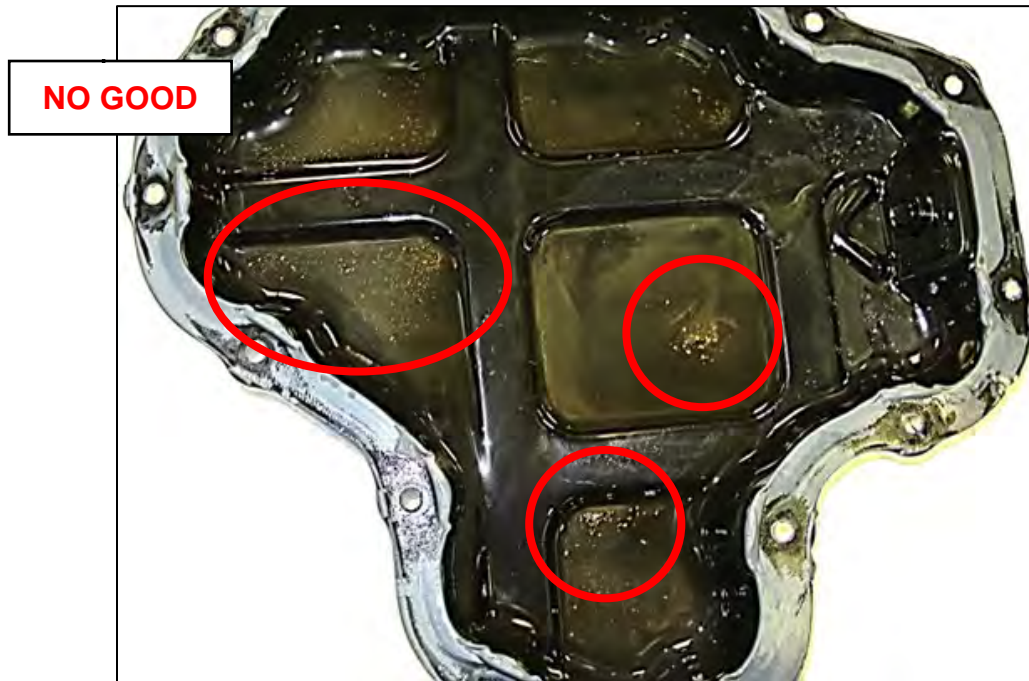
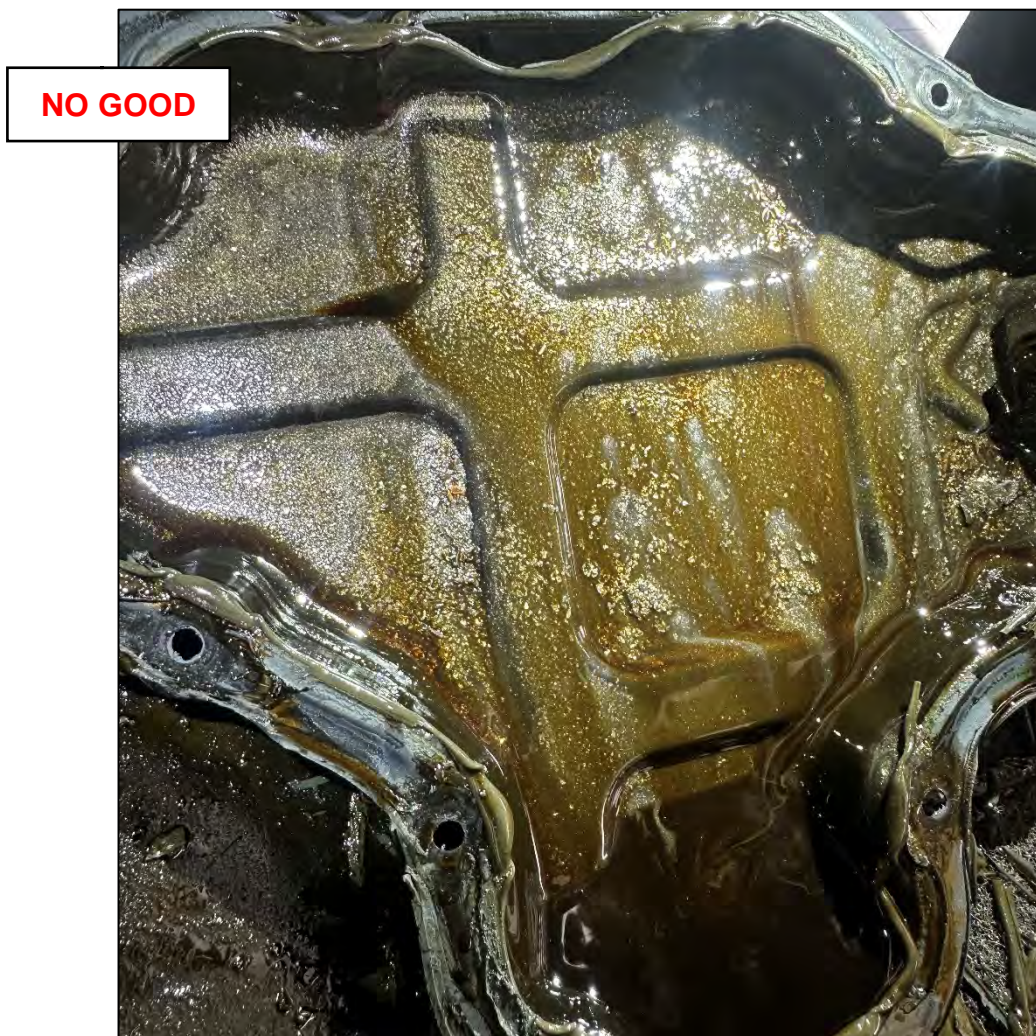

Figure 11
Figure 12
**NO:** The lower engine oil pan has accumulated metallic copper-colored bearing debris (**NO GOOD**) similar to what is shown in Figure 11, Figure 12 and Figure 13 (page 9 and 10). Skip to step 10 on page 12.
- Figure 11 and 10 below, and Figure 13 on page 10 are examples of a **NO GOOD** condition.
10. If the lower engine oil pan inspection was **NO GOOD condition**, similar to what is shown in Figure 11, Figure 12 and Figure 13 (page 9 and 10), replace the long engine assembly (replace using normal campaign/warranty guidelines and preauthorization by Warranty Contact Center IS REQUIRED).